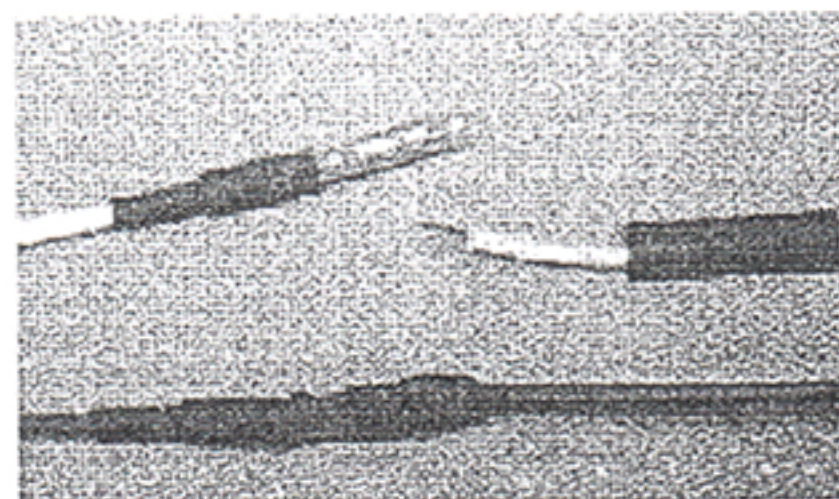

Figure 3.
8. Connect the new jumper to the blue and white wires with the connectors and shrink tape supplied in kit. Strip the wire insulation back ¼" from blue wire and attach one (1) piece of shrink tape onto wire. See Figure 3